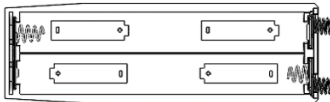
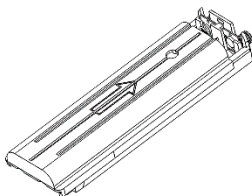

Figure 1
Figure 3
**ALKALINE VERSION INSTRUCTIONS:** The alkaline battery pack accommodates (4) AA batteries as show in Figure 1.
Pull out the battery tray and holding the bottom of the tray, slide the top cover back, as shown in Figure 3. Insert the batteries as shown in Figure 1, and slide the top tray closed. Insert the battery tray into the flashlight with the arrow pointing towards the opening.